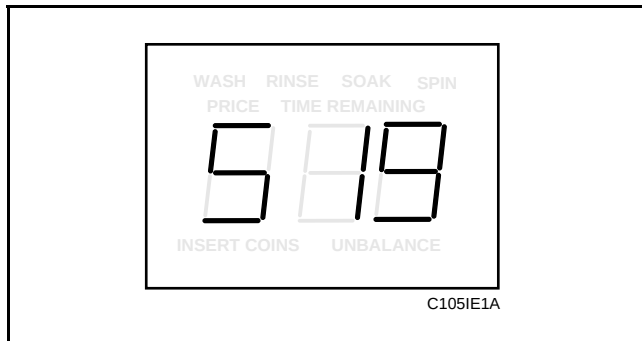

Figure 49
2. While pressing and holding the PERM PRESS keypad with one hand, press the COLD keypad with the other hand. Programmable option number one, “Slg”, will appear in the VFD. See **Figure 49**.